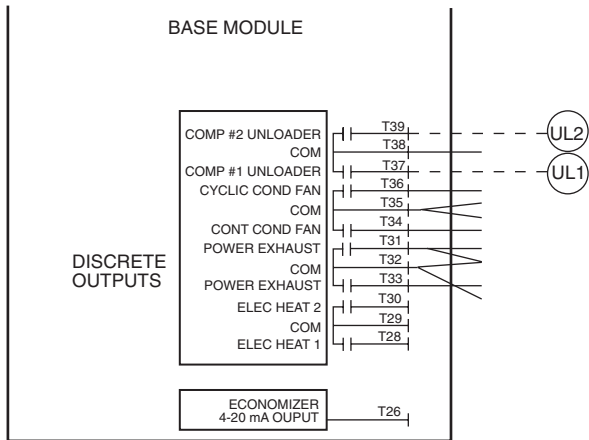

Fig. 56 — Wiring Field-Supplied Unloaders for Constant Volume Units
ELECTRIC UNLOADERS (Constant Volume Units Only) — The rooftop units with version 4.0 control software and later are capable of controlling electronic unloaders when in the constant volume (CV) operating mode. The unloaders may be installed in the field and wired to the control box as shown in Fig. 56.